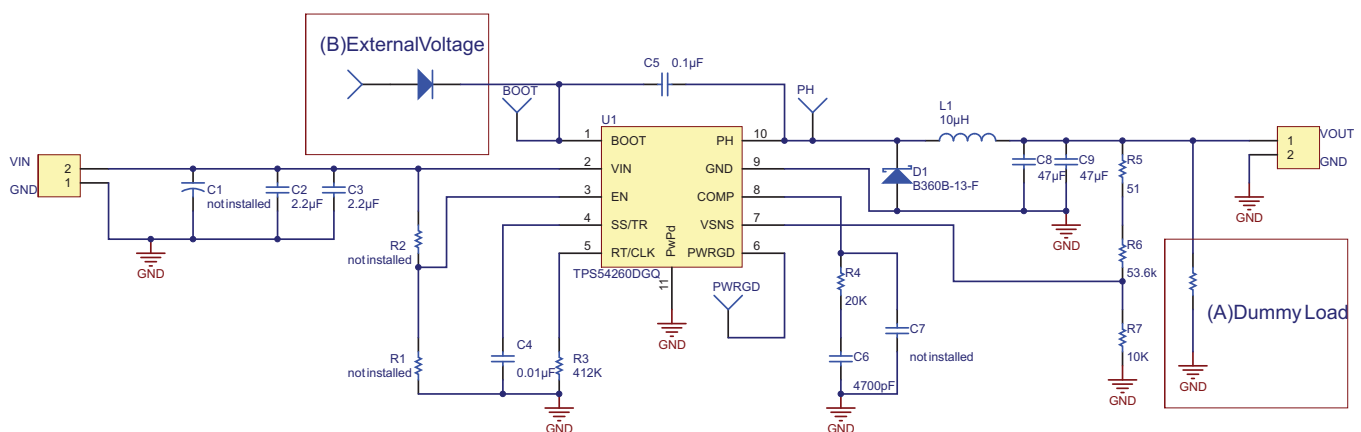
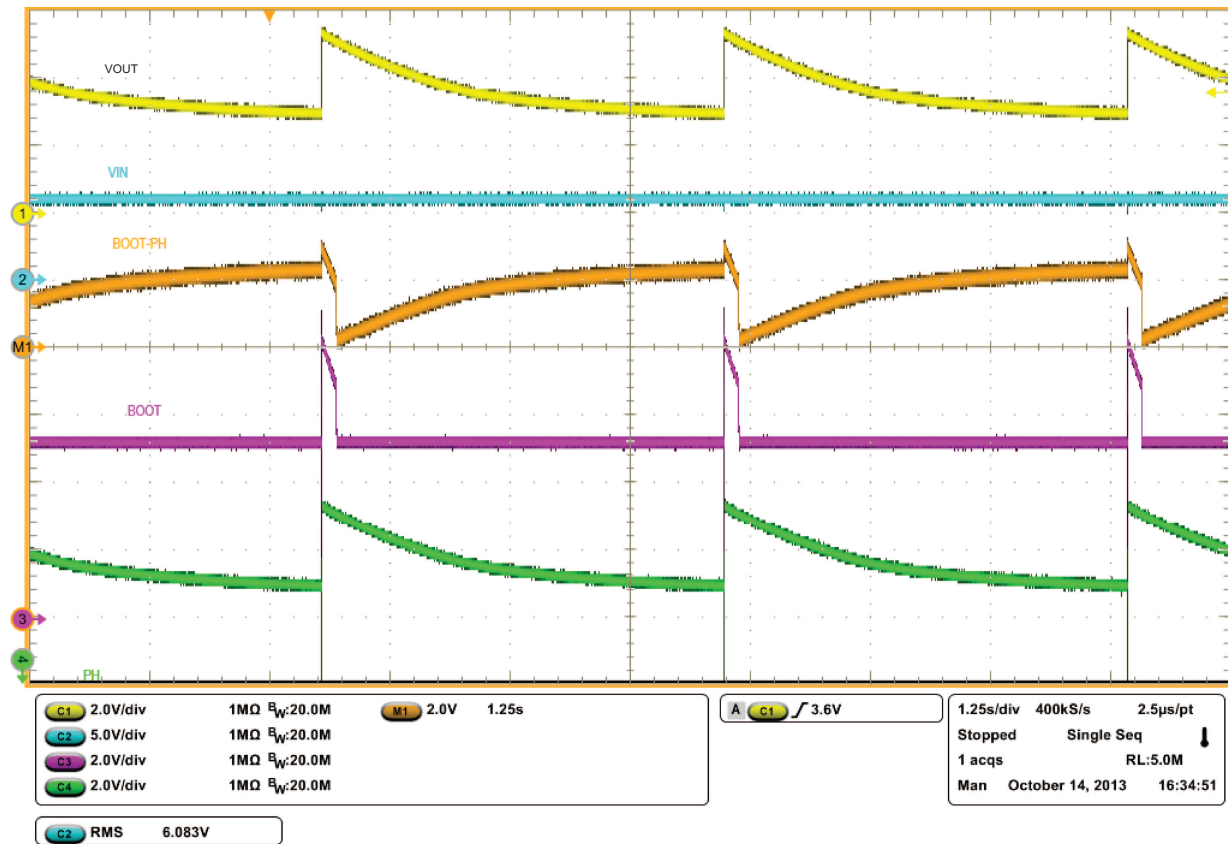

Figure 1. Schematic of Original Converter
Figure 6. Low Dropout Brownout Waveform
As a result, the board can operate at low-input voltages without the device shutting off due to the external resistor divider at the EN pin, and the low dropout operation can be evaluated. This board is referred to as the original converter. Because the TPS54260 device is non-synchronous, it operates in both continuous conduction mode (CCM) and discontinuous conduction mode (DCM), depending on the output load current. The TPS54260 circuit used for testing is shown in Figure 1. The BOOT and PH waveforms are shown in Figure 2 with an 8-V input and a 2-A load.
Figure 3 through Figure 5 show the waveforms of the PH node of the circuit in Figure 1 with different input voltages and loads. Figure 3 $V_{IN} = 8\text{ V}$, $I_{OUT} = 100\text{ mA}$; Figure 4 $V_{IN} = 8\text{ V}$, $I_{OUT} = 200\text{ mA}$; Figure 5 $V_{IN} = 12\text{ V}$, $I_{OUT} = 100\text{ mA}$. Compare Figure 3 with Figure 4 and Figure 5. It can be observed that the off state duration is shorter, if the input voltage is lower, or the load is lighter. Figure 3 $t_{off} = 640\text{ ns}$; Figure 4 $t_{off} = 940\text{ ns}$; Figure 5 $t_{off} = 840\text{ ns}$. In no load, the OFF state duration is at its minimum.
In no load and minimum input voltage, the OFF state period is lowest, as the results show in Section 2.1. There is not always enough time to charge the BOOT capacitor to keep its voltage charge above the 2.1-V threshold in the OFF state. Also shown previously, when increasing the load, the off state duration is longer. However, the time may still be insufficient, if the load is not heavy enough. In this condition, if the resonant oscillation in the IDLE state is ignored, the voltage of PH node equals the output voltage. If the input voltage is 2.1 V higher than the output, the BOOT capacitor can be charged to 2.1 V in IDLE state. If the input voltage is lower than output plus 2.1 V, the BOOT capacitor cannot be fully charged and the BOOT to PH voltage falls below 2.1 V, forcing the high-side switch off. This operation mode causes the output voltage regulation to degrade. Figure 6 shows this operation when the input is 6 V with a light output load. The $V_{BOOT} - V_{PH}$ cannot remain higher than 2.1 V, and the output has an approximately 2.1-V sawtooth ripple. When decreasing the input voltage from nominal 12 V with no load, the output begins to exhibit this ripple at a certain input voltage. This voltage is defined as the entry voltage. If the input voltage is increased again, the converter returns back to expected operation. This voltage level is defined as the recovery voltage. There is hysteresis between the entry and recovery voltages. The entry and recovery voltages of the original converter in Figure 1 are 7.7 V and 8 V, respectively.
According to the description presented above, there are two basic ways to improve the low dropout operation issue. As Figure 1 shows, solution (A) applies a dummy load at the output. Solution (B) applies an external voltage at the BOOT node through a diode. Solution (A) extends the off state duration, so the BOOT capacitor can be charged to 2.1 V. Solution (B) raises the voltage on BOOT node directly to sustain sufficient voltage on the BOOT capacitor.
The entry and recovery voltages are defined in Section 2.2. Table 1 and Table 2 show the entry and recovery voltages of the four additional solutions in comparison with the original converter in Figure 1 when the outputs are 3.3 V and 5 V. The limitation of maximum input voltages shown in Table 1 and Table 2 are discussed in Section 4.2.